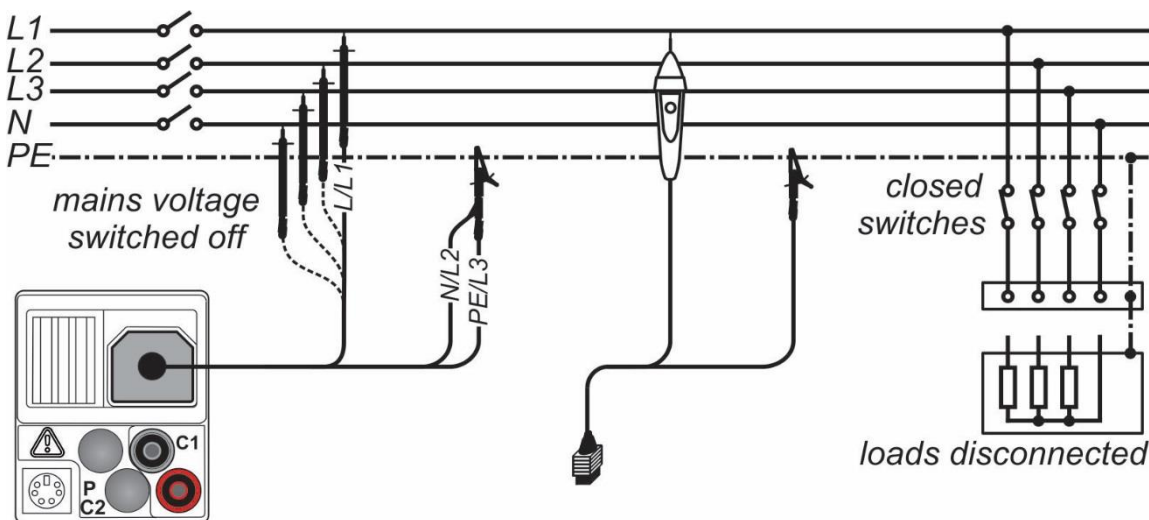
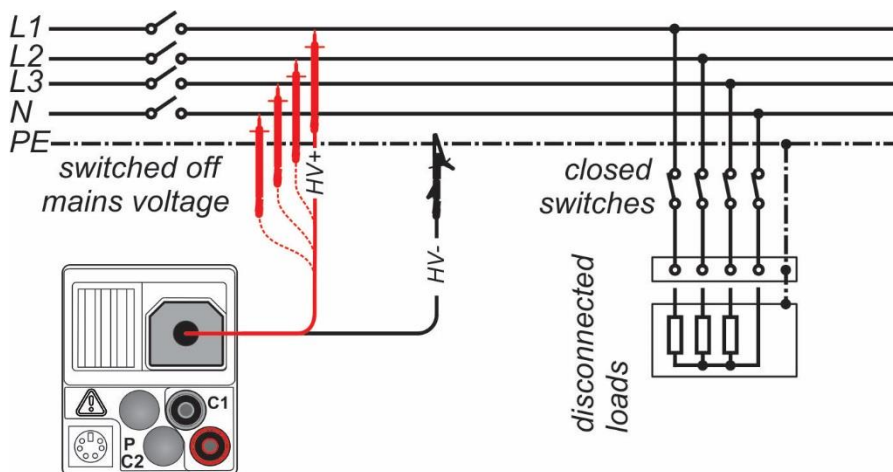

Figure 5.6: Connection of 3-wire test lead and tip commander ($U_N \leq 1 \text{ kV}$)
Figure 5.7: Connection of 2.5 kV test lead ($U_N = 2.5 \text{ kV}$)
- ❑ **Connect** test cable to the instrument and to the item to be tested (see Figure 5.6 and Figure 5.7).
- ❑ **Connect** test cable to the instrument and to the item to be tested (see *Figure 5.6* and *Figure 5.7*).